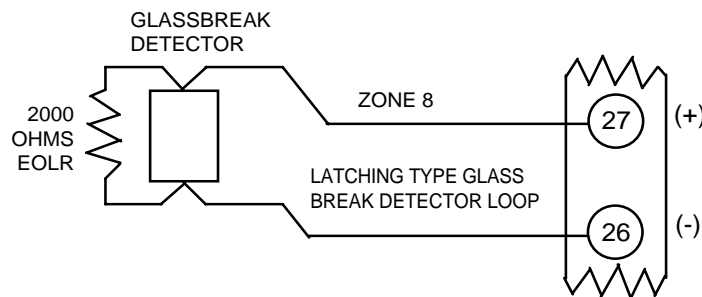

Figure 6-3: Wiring Latching Glassbreak Detectors to Zone 8
1. Connect all detectors in parallel across zone 8 (terminals 26 and 27). See *Figure 6-3*.